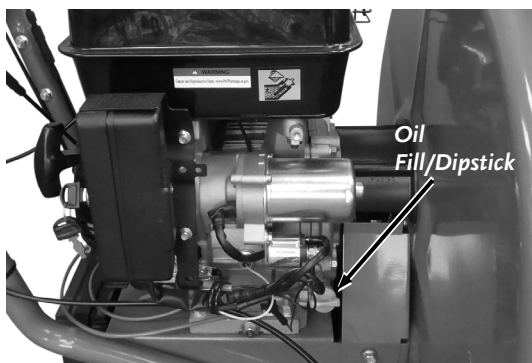

Figure 17
1. Remove the Oil Dipstick/Fill Cap and vacuum the oil from the Engine through the Dipstick Tube using the recommended oil drainer (**Figure 17**).